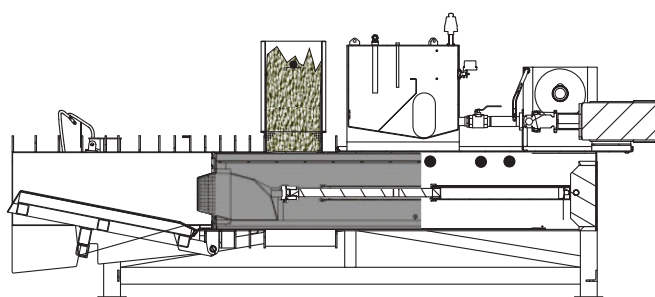

Figure 25 - Product Reaches Level Detector
2. **MATERIAL REACHES LEVEL DETECTOR** The level detector (see Level Detector Adjustments - Pg. 23) will send a signal to the IQAN Module program when PROX 1 has been activated by product being sensed for more then 1 second (see Figure 25). The plunger will retract according to **PRODUCT DELAY** pot #1 (see Potentiometer Adjustments Pg. 22 for adjustments). When the plunger activates PROX 4, the plunger speed is reduced.